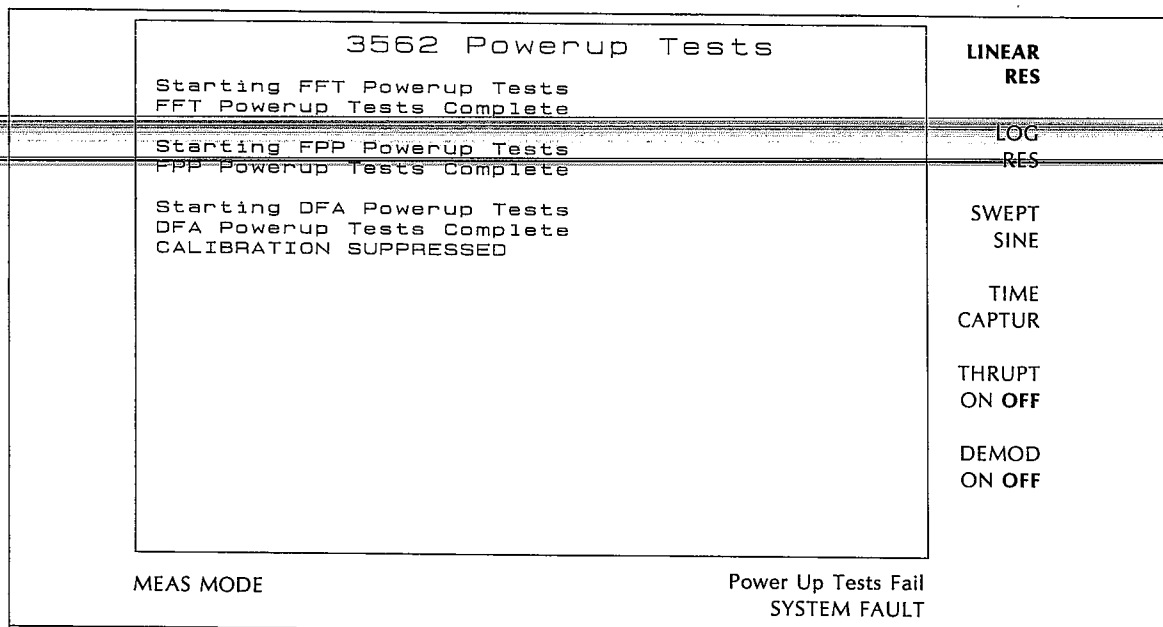

Figure 7-3 Display Active
13. The display should now appear as shown in figure 7-3. If the display is defective, the probable cause of the failure is the A8 Global RAM or A17 Display Interface (go to 8-11).
- 17. The soft keys should now be active and the display appear as shown in figure 7-3. Only the GLOBAL RAM and TEST KEYBD tests are valid. If the soft keys are not active or the display is defective, either the A8 Global RAM, A15 Keyboard, or A17 Display Interface is probably defective. If possible, press the keys as follows:
- 18. The A17 Display Interface or the display controller subblock on the A8 Global RAM may be causing the failure (the self-tests do not verify these circuits). If the display does not appear as shown in figure 7-3, refer to paragraph 8-11 to test the display interface and display controller circuits.